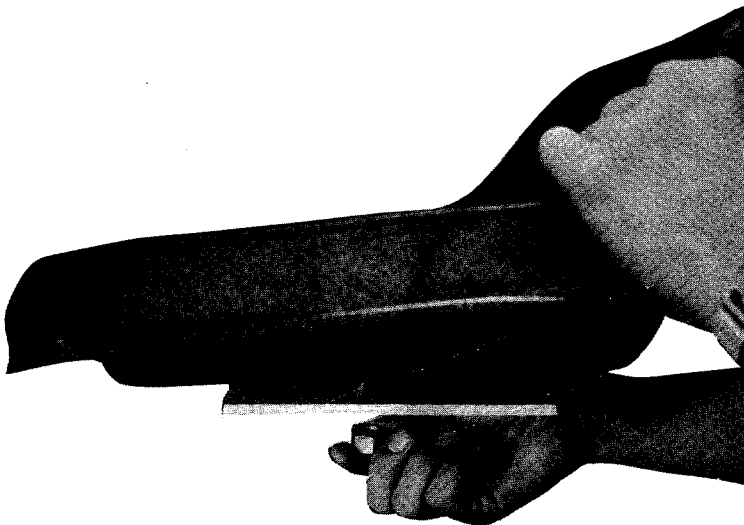

FIGURE 4. SEAT ASSEMBLY
Step 6. Place the seat on the seat spring and secure with hex nut C. See figure 4.